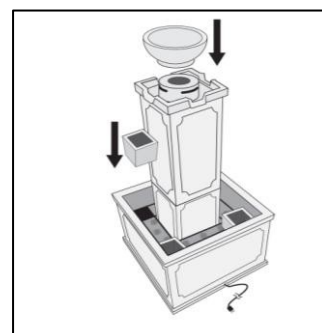

Fig. 9
9. After lights have been adjusted place planters in corners of basin and decorate with flowers (**flowers not included**). Fig. 9.